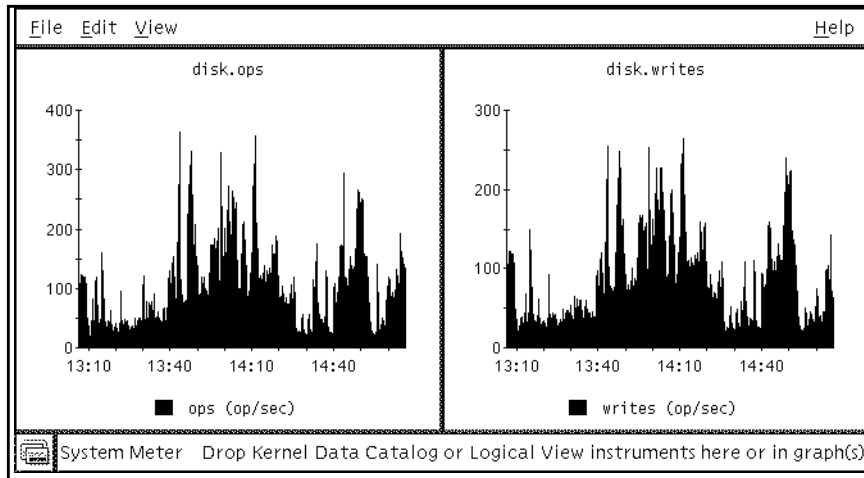

FIGURE 3-20 Displaying Two System Meters in the Same Window
2. Select the legend for the desired instrument (for example, `writes (ops/sec)`) and drag it to the footer of the second System Meter window (see FIGURE 3-20).
2. **Select Delete from the SysMeter Edit menu (see FIGURE 3-20)**
- **To undo a change in a graph, select Undo from the SysMeter Edit menu (see FIGURE 3-20).**
1. **Place the pointer over the legend for the variable (see FIGURE 3-20) and click the left mouse button.**